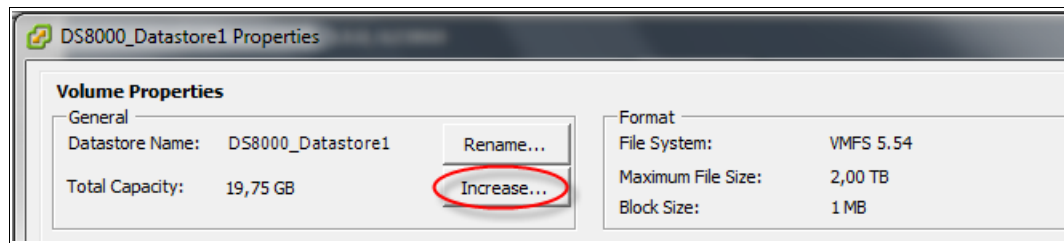

Figure 7-20 Volume properties
- c. In the volume properties window shown in Figure 7-20, click **Increase**.